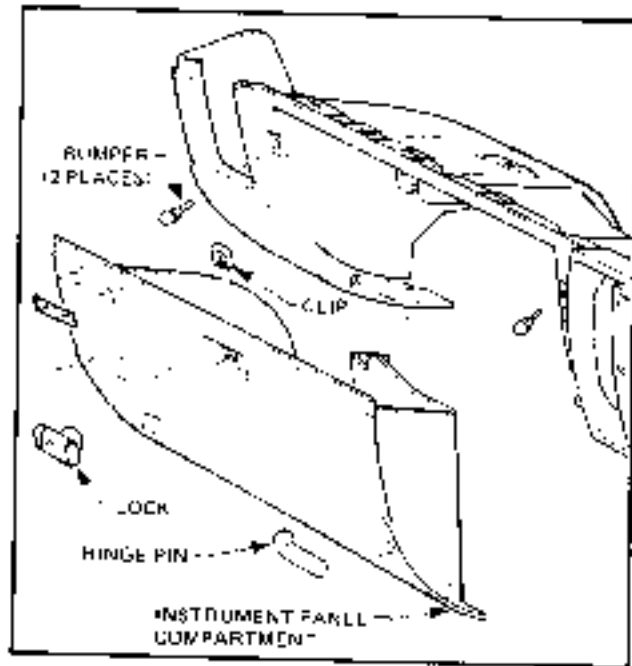

Figure 2A-12
7. Remove the nuts securing the blower motor housing to the studs attached to the left hand side of the plenum chamber illustrated in Fig 2A-13 removing the housing assembly.